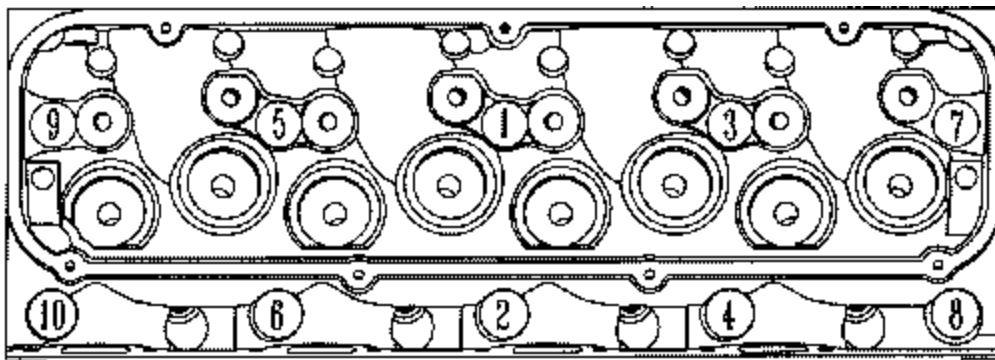

Figure 1— Tightening Sequence
6. Head Installation - Use Edelbrock # 7314 or Fel-Pro #1018 head gasket or equivalent. NOTE: For Performer RPM 460 (Non-CJ) heads, Edelbrock Cylinder Head Gasket Set #7365 may also be used. This set includes all gaskets necessary for installation of Edelbrock cylinder heads; including intake, exhaust, cylinder head, water neck and valve cover gaskets. Follow the installation instructions for the head gasket. Be sure that the surface of the block and the surface of the cylinder head is thoroughly cleaned to remove any oily film before installation. Use alcohol or lacquer thinner on a lint-free rag to clean. Apply engine oil to the head bolt threads, washer, and bolt where it contacts the washer. The head bolt washers should be checked that they seat properly on the bolt underhead, and not on the head bolt underhead radius. Torque the head bolt 135 ft./lbs. in four steps following the factory tightening sequence (see Figure 1). A re-torque is recommended after initial start-up and cool-down (allow 2-3 hours for adequate cooling). Install the intake manifold bolts lubricated with engine oil not exceeding 25 ft-lbs of torque when tightening. It is also good practice to lubricate the exhaust manifold/headers bolt threads with a small amount of anti-seize paste. Spark plugs should also be tightened to a maximum of 10 ft-lbs of torque with the sparkplug thread lubricated with a small amount of anti-seize paste.